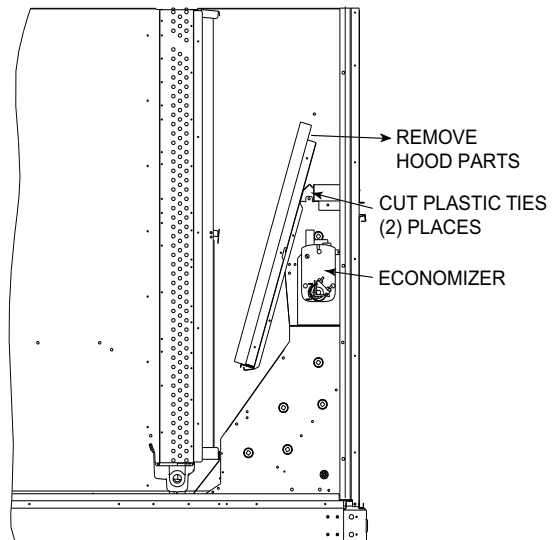

Fig. 23 — Economizer Hood Package Location (Size 16)
3. Locate and cut the (2) plastic tie-wraps being careful (see Fig. 23). Be careful to not damage any wiring or cut tie-wraps securing any wiring.
3. Locate the (2) screws holding the metal tray to the basepan and remove. In order to remove the screws, it may be necessary to remove the panel underneath the two-position damper. Remove the two screws. Locate and cut the (2) plastic tie-wraps securing the assembly to the damper. (See Fig. 23.) Be careful to not damage any wiring or cut tie-wraps securing any wiring.